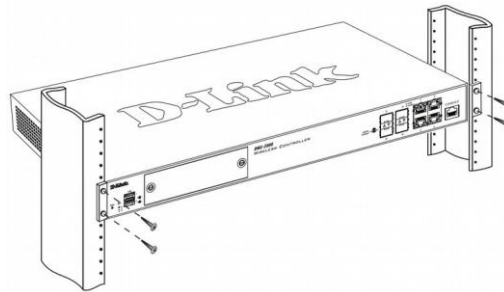

Figure 6. Mount into the Rack
2. Use the screws provided with the equipment rack to mount the device in the rack as shown in Figure 6.